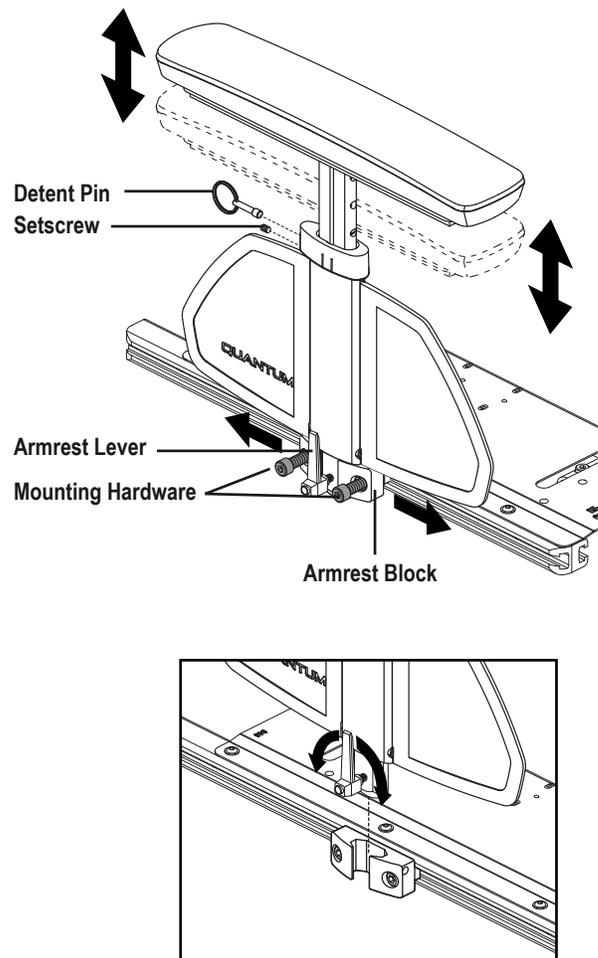

Figure 6. Removal/Installation of TB-Flex Quick-Release Armrests
2. Lift up the armrest assembly. **See figure 6.**
1. Place the armrest assembly into the armrest block. **See figure 6.**
1. Loosen but do not remove the setscrew by turning it counterclockwise with a 2 mm hex key. **See figure 6.**